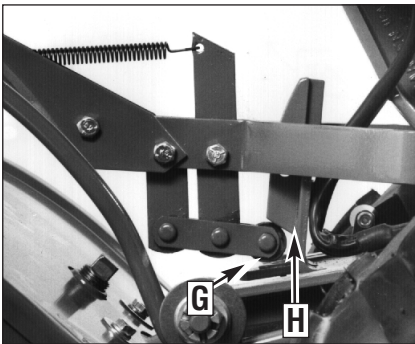

Figure 3-2: FORWARD position; roller (G) rests under the adjustment block (H).
- FORWARD is engaged when the lever is moved down until the clutch roller (G, Figure 3-2) engages into the detent position under the adjustment block (H, Figure 3-2). You will definitely feel the lever engage into this position.
When you shift between FORWARD, NEUTRAL and REVERSE, the clutch roller at the base of the Wheels/Tines/PTO Drive Lever should be positioned as shown in Figures 3-2, 3-3 and 3-4. Verify the position of the clutch roller as you shift the lever. If it is not positioned correctly, contact the Factory or see your local authorized dealer.